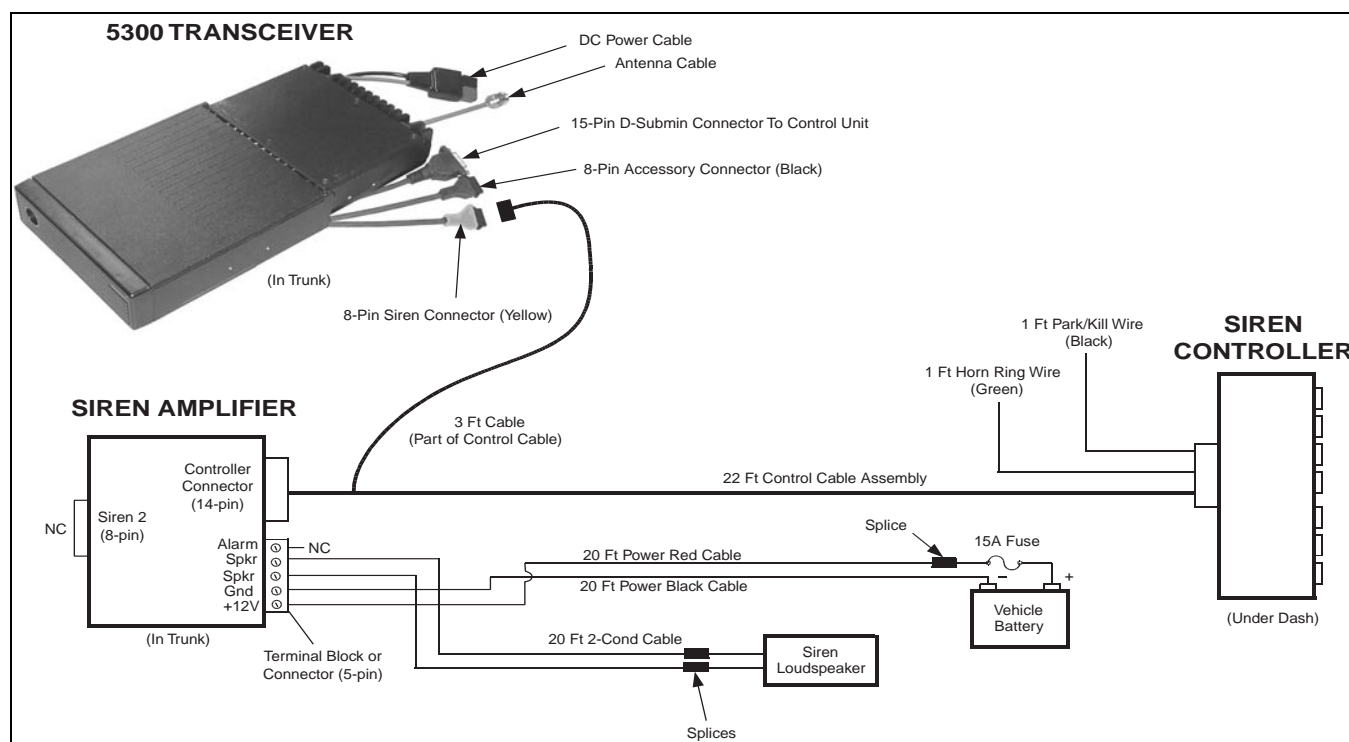

Figure 2-11 Siren Installation Diagram
Refer to Figure 2-11 and proceed as follows:
4. Connect the included 22-ft control cable assembly between the amplifier, transceiver, and controller as shown in Figure 2-11. Be sure to connect it to the yellow (or orange) 8-pin siren pigtail of the transceiver (not the black 8-pin accessory pigtail).